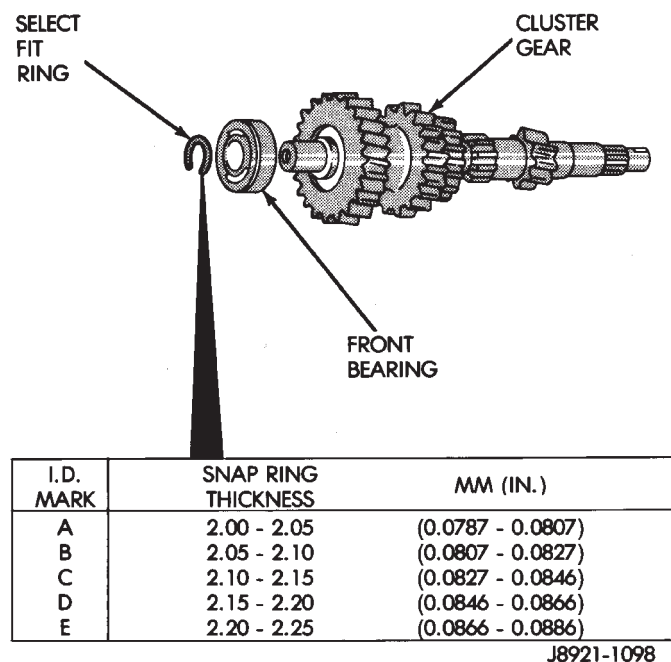

Fig. 71 Selecting Cluster Gear Front Bearing Snap Ring
(2) Press front bearing on cluster gear. Then secure bearing with thickest snap ring that will fit in ring groove on gear (Fig. 71).